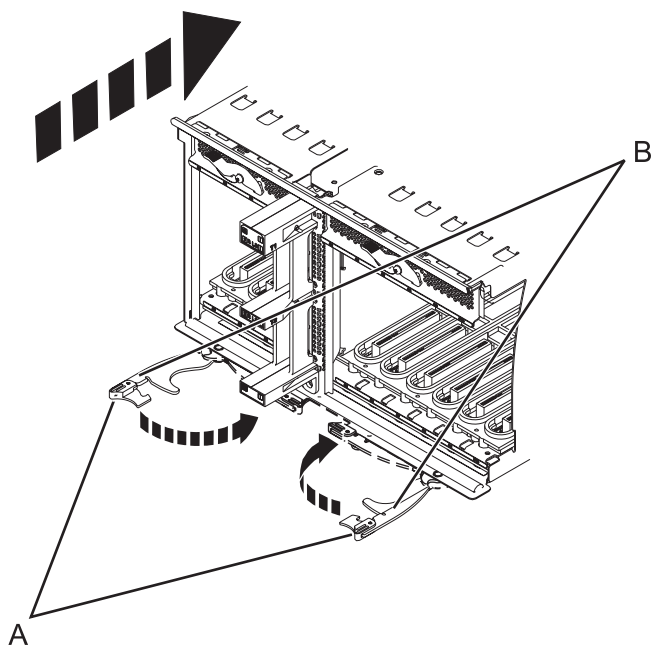

Figure 77. Install the I/O system board on a rack-mounted model
9. Insert the I/O system board firmly into the server, as shown in Figure 77 on page 112.
10. Secure the I/O system board with the locking tabs (A), as shown in Figure 77 on page 112.